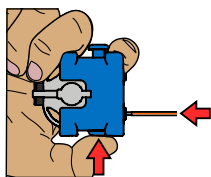

Fig. 1
1. Connect the AtriAmp to the epicardial wire by inserting a pacing lead into the appropriate (+) or (-) port while pressing the corresponding side button (Figure 1). Release the button to secure the lead.